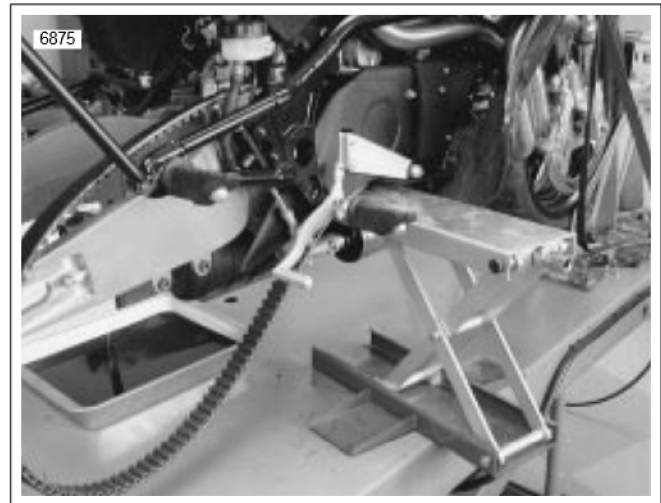

Figure 4. Scissors Jack
12. See Figure 4. Place a jack under the crankcase.